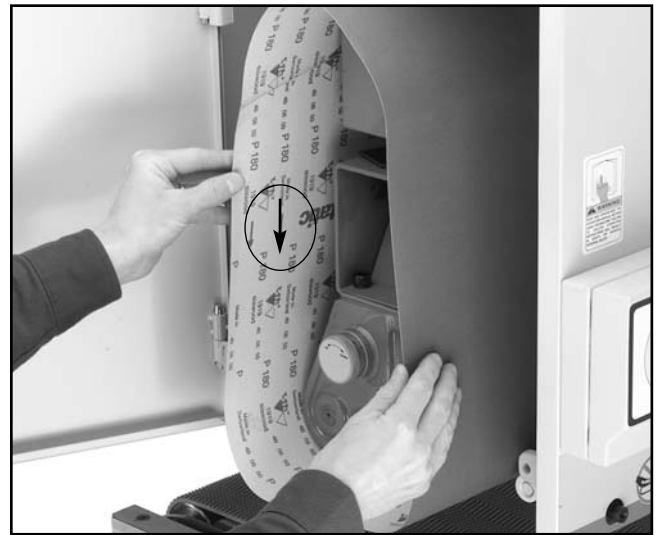

Figure 11. Place belt over the three belt rollers to install. Make sure arrows on inside of belt point in the direction of rotation.
3. Fit the sanding belt completely over the three sanding rollers as shown in **Figure 11**. *The belt will move counter-clockwise during rotation—make sure that the arrows on the inside of the belt point in the direction of rotation.*